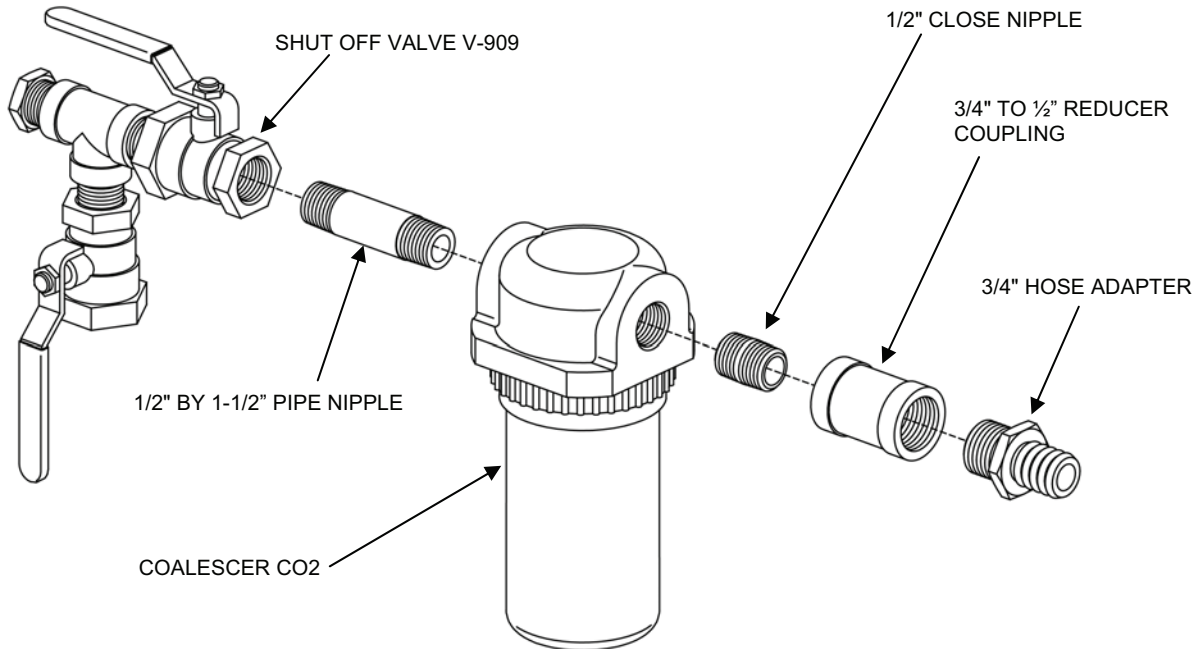

Figure 11. Oil/Water Coalescer CO2.
3. Disconnect the coalescer from the ½-in. by 1½-in. nipple that connects the coalescer to Shutoff Valve V-909 (see Figure 11).
- c. Thread Shut-Off Valve V-909 onto the 1/2-in. by 1 1/2-in. pipe nipple. Do not over-tighten. Refer to Figure 11 for correct positioning of the valve and coalescer.